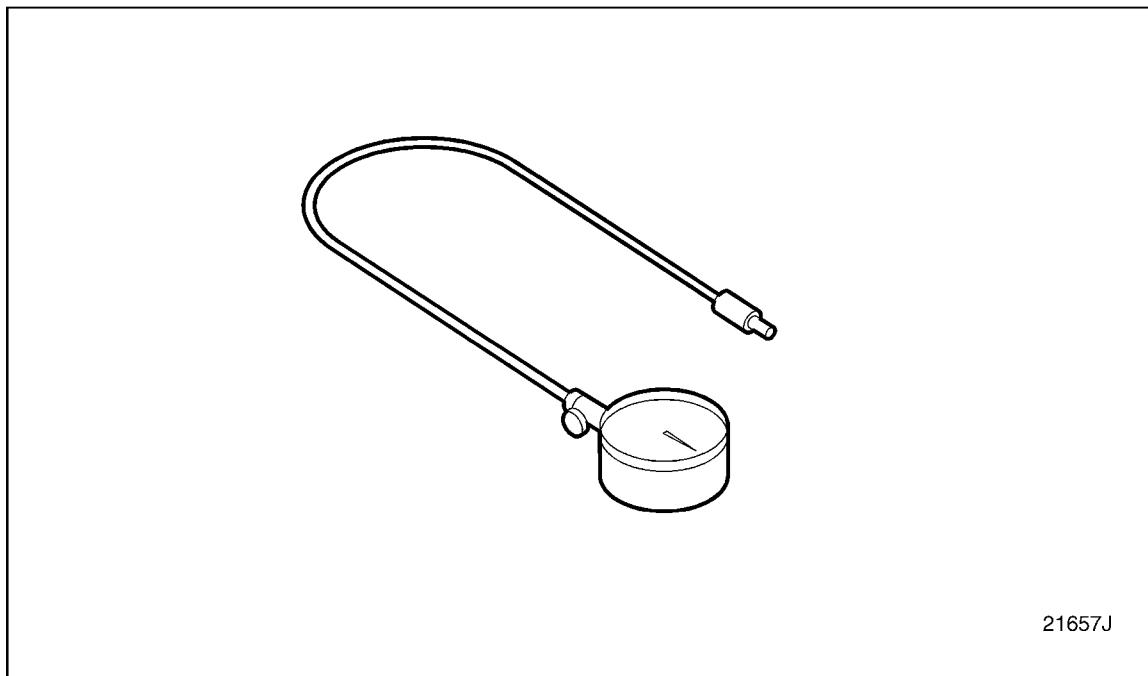

Figure 8-3 Attach Cylinder Compression Gauge J 6692-B
18. Attach cylinder compression gauge (J-6692-B) to the first adaptor. See Figure 8-3.